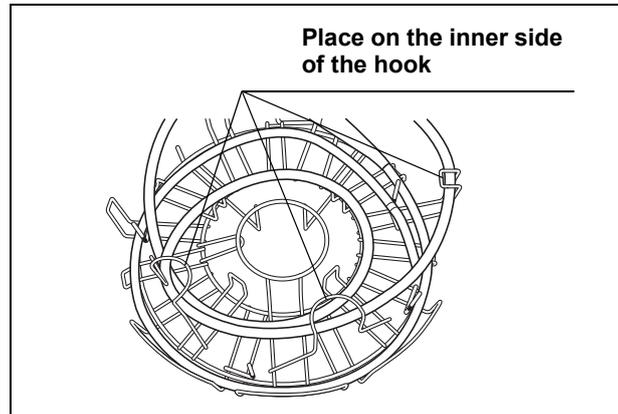

Figure 4.14
4. Wind the universal cord counterclockwise around the inside section of the retaining rack by placing it under the hooks so that it will not move upward (see Figure 4.14). If the scope ID tag is attached to the endoscope, move the scope ID tag toward the endoscope connector. Straighten the ID tag's band if it is twisted.
5. Adjust the positions of the insertion tube and universal cord to minimize overlapping. Also, adjust the positioning of the insertion tube's distal end by turning the angulation control knobs (lever) on the control section. Again, make sure that the universal cord is placed on the inside of the hook (see Figure 4.14).